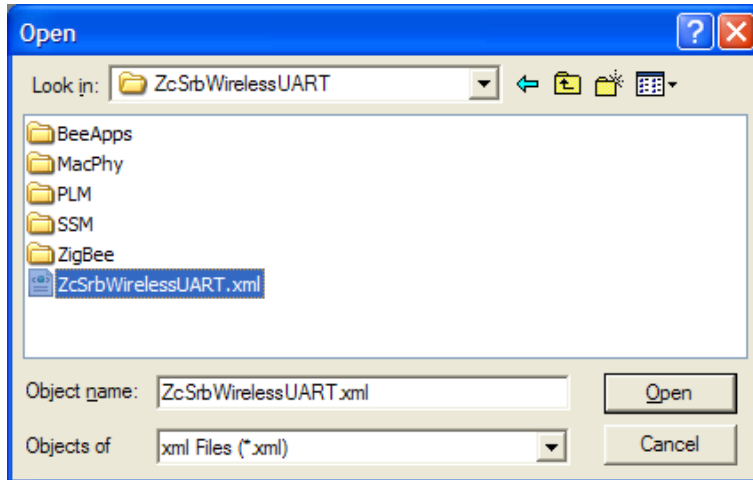

Figure 5-18. CodeWarrior Open XML Window
4. Navigate to the ZcSrbWirelessUART directory as shown in Figure 5-18, and click on the .xml file to be imported.
5. Click on the Open button. The Open window is replaced by the “Name new project as:” window in the same directory. Type in the name for the CodeWarrior project file without an extension. This example uses the same name as the .xml file as shown in Figure 5-18.